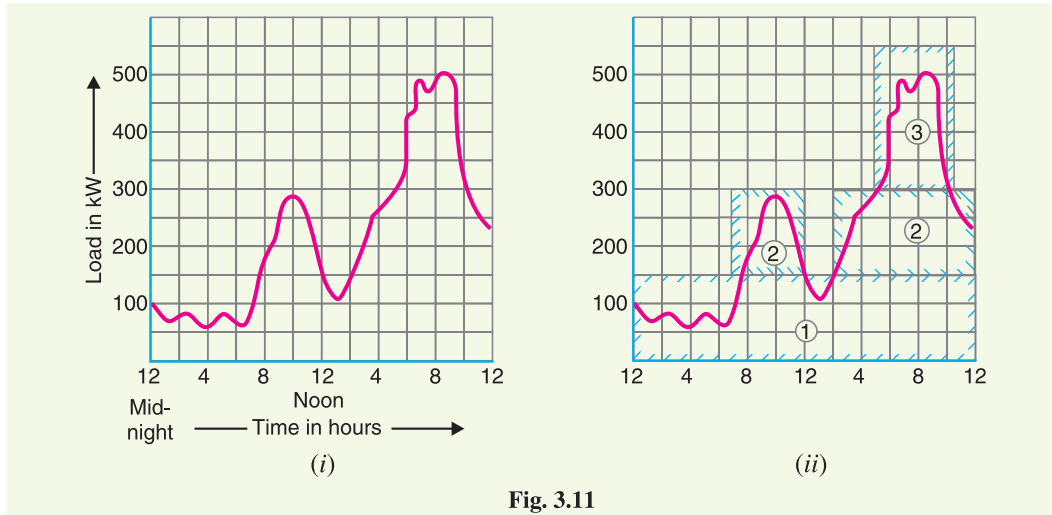

Fig. 3.11
**Illustration.** The principle of selection of number and sizes of generating units with the help of load curve is illustrated in Fig. 3.11. In Fig. 3.11 (i), the annual load curve of the station is shown. It is clear from the curve that load on the station has wide variations; the minimum load being somewhat near 50 kW and maximum load reaching the value of 500 kW. It hardly needs any mention that use of a single unit to meet this varying load will be highly uneconomical.
As discussed earlier, the total plant capacity is divided into several generating units of different sizes to fit the load curve. This is illustrated in Fig. 3.11(ii) where the plant capacity is divided into three\* units numbered as 1, 2 and 3. The cyan colour outline shows the units capacity being used. The three units employed have different capacities and are used according to the demand on the station. In this case, the operating schedule can be as under :